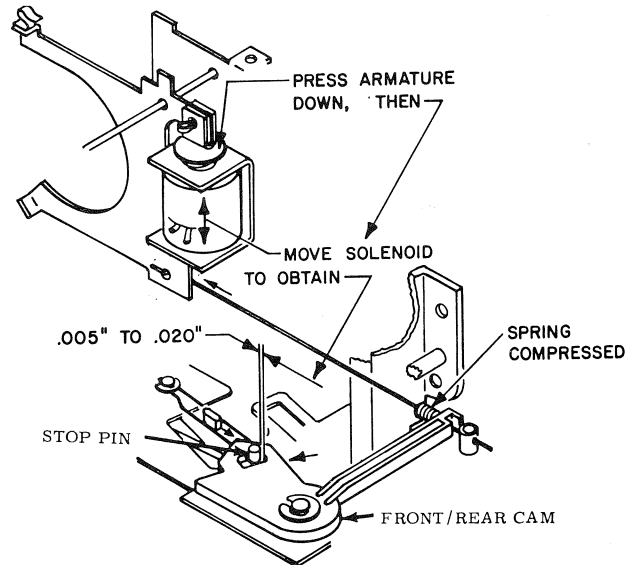

Figure 16. Solenoid Adjustment
- (2) Observe the stop pin clearance and back edge of the slot in the front/rear cam. This clearance must be .005" to .020" (0.1 to 0.5mm) (Figure 16).
- (3) Move solenoid up to decrease pin clearance if necessary. This will cause the tray index arm pin to follow the rear "V" of the front/rear cam.